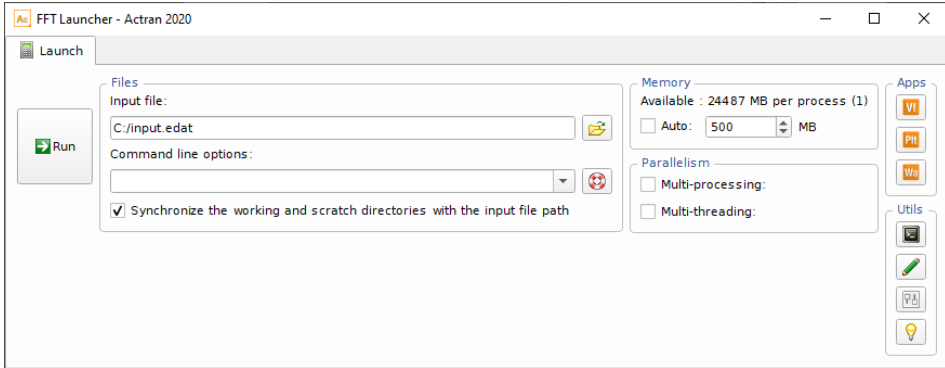

Figure 6.33: Launch the analysis model using the ACTRAN launcher
The computation can be started using the ACTRAN launcher (Figure 6.33). Refer to Chapter 5 on how to start the ACTRAN launcher.
- Edit the Command line options as it is shown in Figure 6.33 and click on the arrow to run the command.